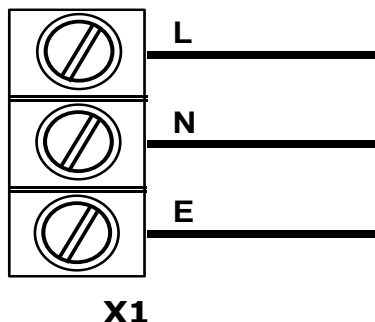

Figure 3. Connecting External AC Power via Connector X1.
If the ME5-T is an AC power version (ME5-T-A-), then the ME5-T has a 240 vac transformer fitted internally, and a power cord is supplied. The external mains power cables (Active, Neutral and Earth) are connected through the second cable entry to the PCB connector X1, as shown in Figure 3 below.
- an external AC supply (to Connector X1, shown in Figure 3 on page 5). This will then provide at pin 1 of Connector X2 an unregulated 15 VDC for an 18mA load.